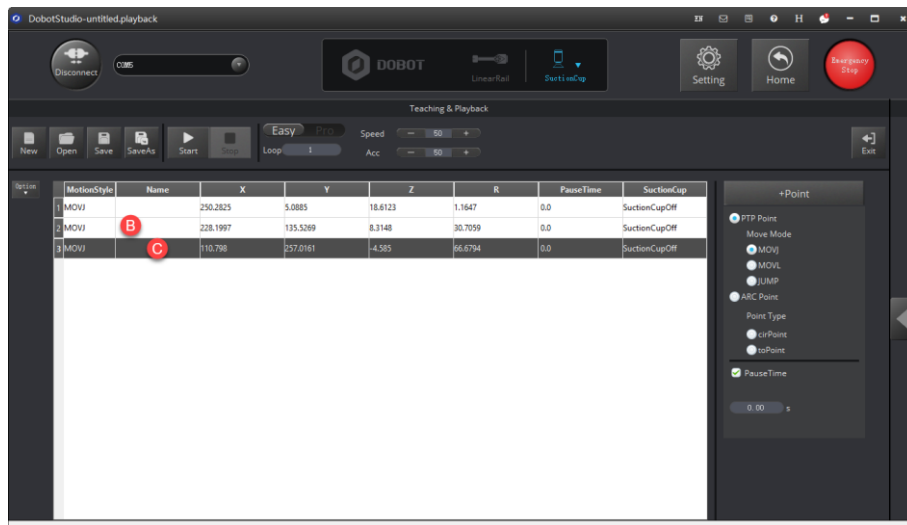

Figure 2.22 The Cartesian coordinates of points B and C
4. Move the robotic arm to other two locations such as points B and C by referring to the method of creating point A above, as shown in Figure 2.22. The robotic arm will save the Cartesian coordinates corresponding to these two points.